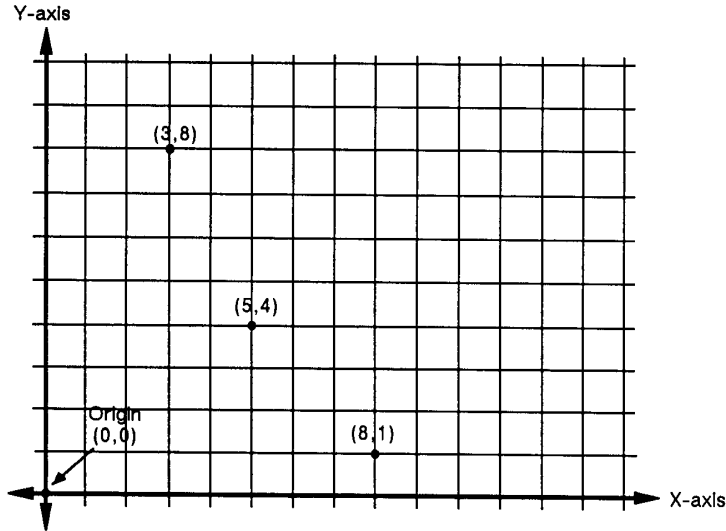
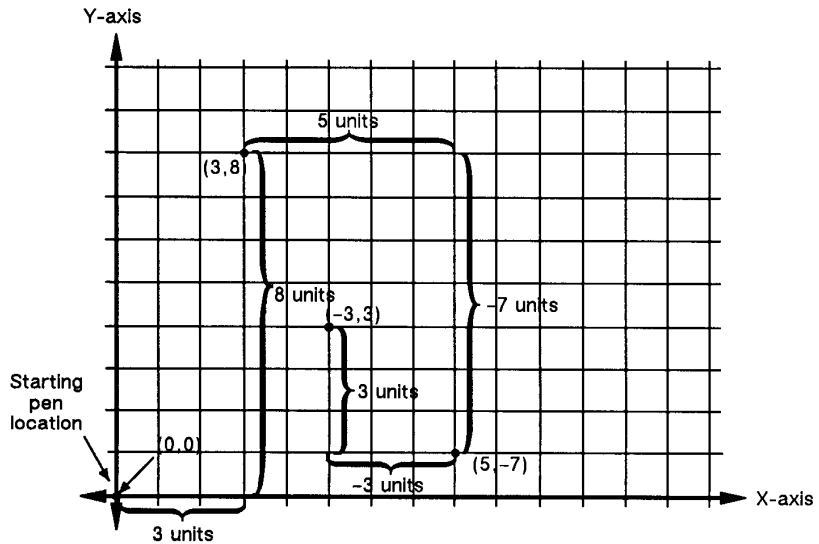

Figure 17-9 Absolute Coordinates
Figure 17-10 Relative Coordinates
The Plot Absolute (PA) and Plot Relative (PR) commands allow you to set whether you want to draw using absolute or relative “pen” moves. *Absolute* pen movement uses X,Y coordinates to specify an exact, fixed point relative to the origin (0,0). In Figure 17-9, the coordinates (3,8), (5,4), and (8,1) are always in the same place with respect to the origin, no matter where the pen is when the coordinates are issued.
In Figure 17-10 for example, assume that the pen is currently at the origin (0,0). To move to the absolute points shown in Figure 17-9 using relative coordinates, count 3 units to the right and 8 units up from the current pen location; these are both positive directions with respect to the origin. This is the relative location (3,8). Now move 5 positive X-units and 7 negative Y-units from this location to the lower point; this is the relative location (5,-7). From this location, move to the last point by moving 3 negative X-units and 3 positive Y-units (-3,3).